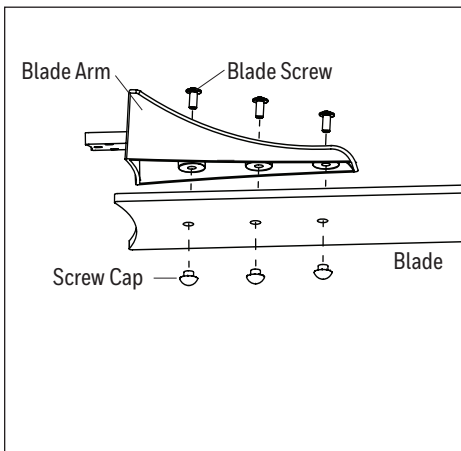

Figure 5.4
- Partially insert three blade screws through the blade arm and the blade. Secure each blade screw with a blade screw cap, starting with the one in the middle. Repeat this step for the remaining blades and blade arms (Figure 5.4).